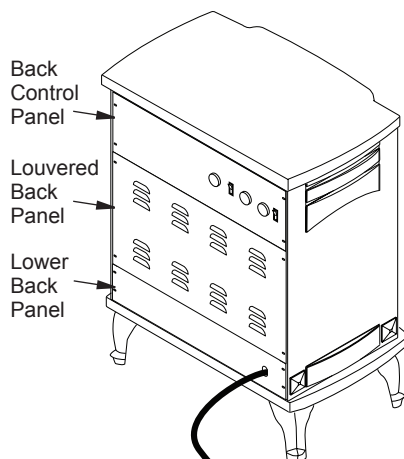

Figure 6 - Back of Stove
1. Unscrew 4 screws from louvered back panel (see Figure 6). Remove louvered back panel.